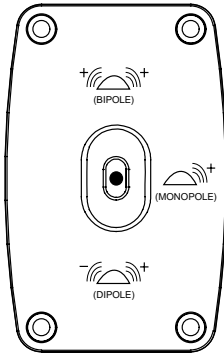

Figure 3. Surround mode configuration switch.
**IMPORTANT NOTE:** The set of drivers closer to the monopole setting indicator in Figure 3 should be installed toward the front of the room. It does not matter whether the tweeter is positioned above or below the woofer. This will ensure proper operation and performance should the Monopole or Dipole position on the surround mode configuration switch be selected.
**IMPORTANT NOTE:** The set of drivers closer to the monopole setting indicator in Figure 3 should be installed toward the front of the room. It does not matter whether or not the tweeter is positioned above or below the woofer. This will ensure proper operation and performance should the Monopole or Dipole position on the surround mode configuration switch be selected.